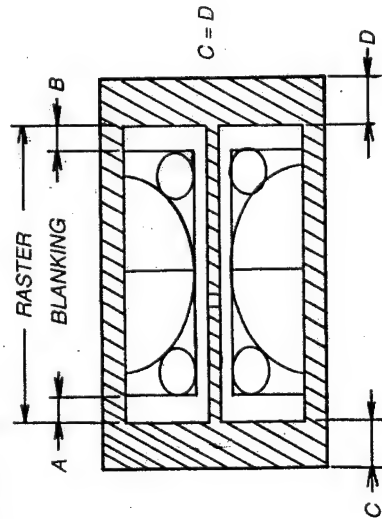

Fig. 31-1.
3. Adjust RV1 and RV7 on the DA board so that the raster can all be seen RV1 and RV7 as shown in Fig. 31-1.
4. Adjust RV26 on the DA board so that the out side portions of the raster become equal to at the right and the left sides as shown in Fig. 31-1.